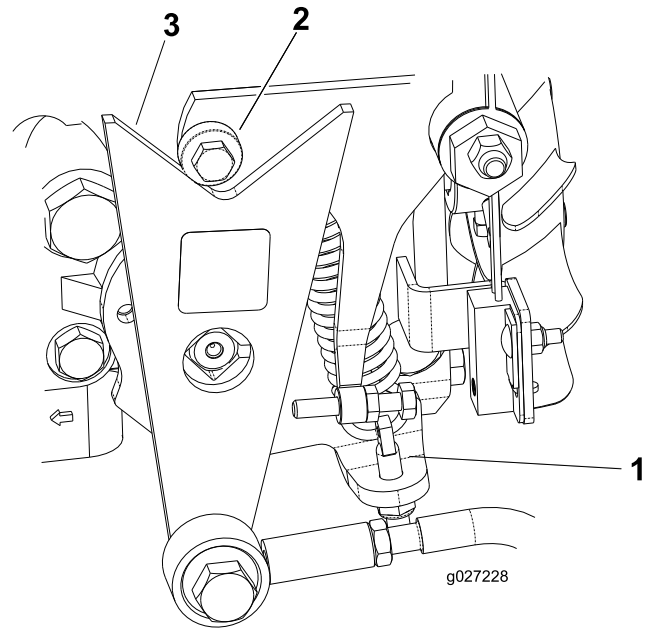

Figure 49
- If the wheels rotate in the proper direction, shut off the engine and adjust the spring-adjusting pin locknut (Figure 49). Adjust the traction neutral position; refer to Adjusting the Traction Drive for Neutral (page 29).